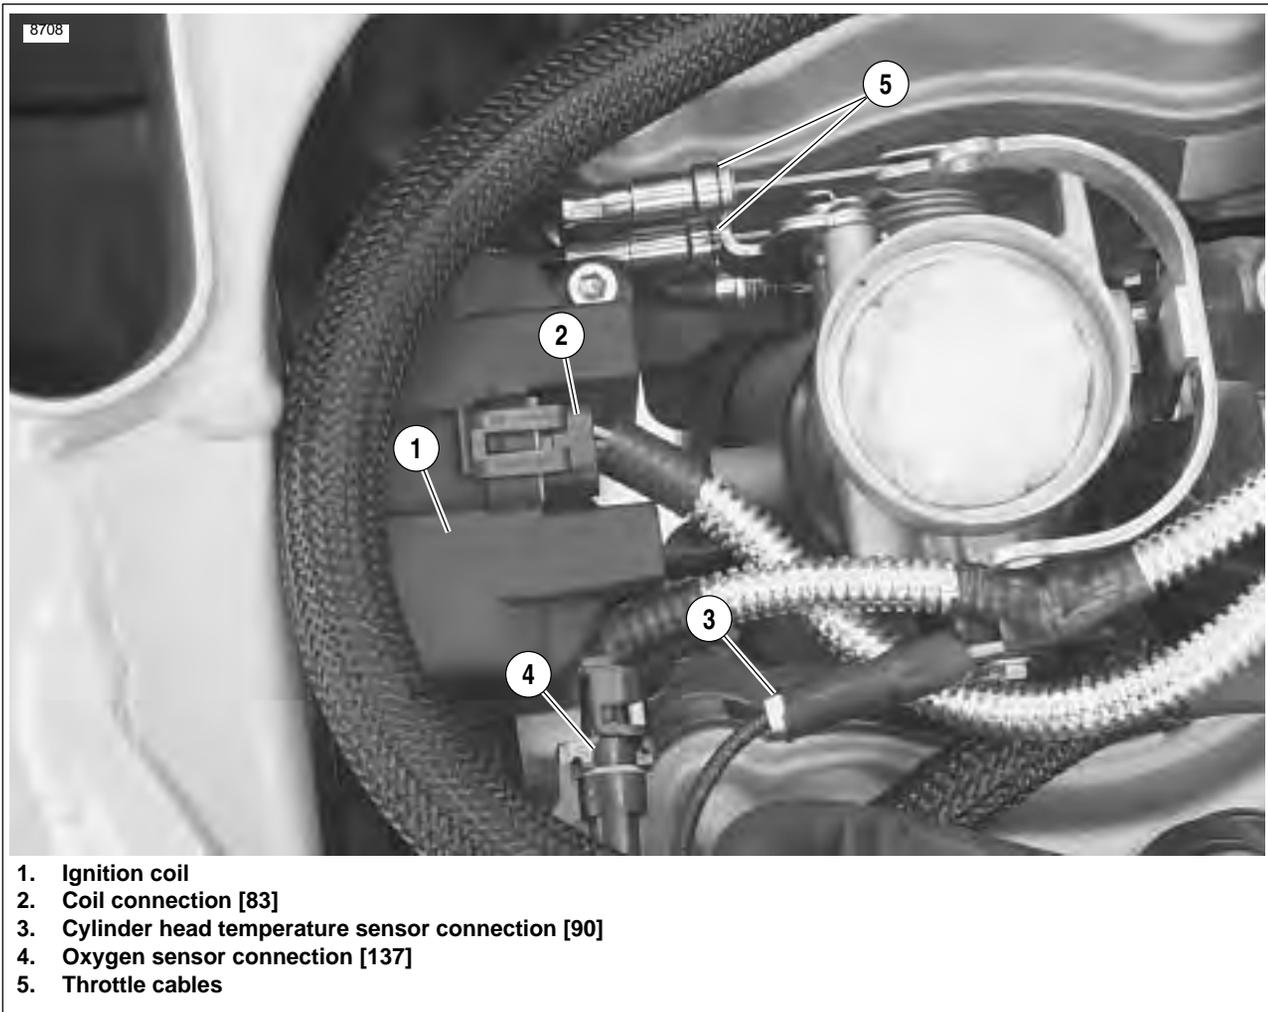

Figure 3-17. Electrical Connections and Throttle Cables (Typical)
9. See Figure 3-17. Disconnect the ignition coil (2) and remove.
- a. Temperature sensor [90] (3).
- b. Oxygen sensor [137] (4).